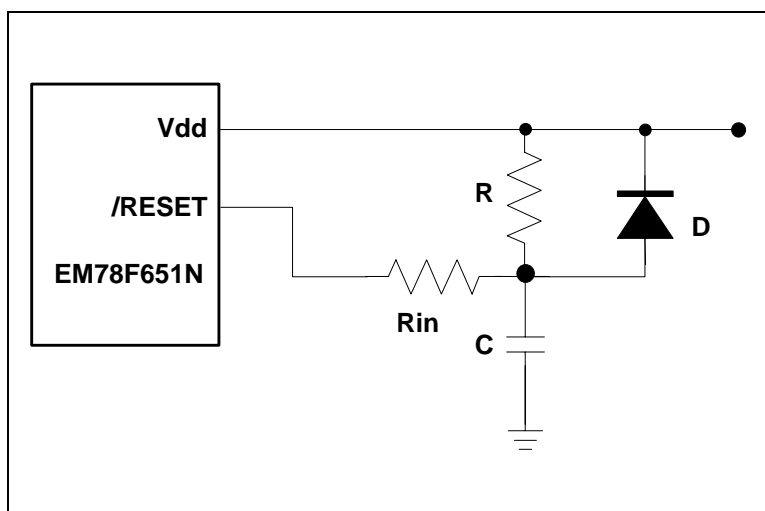

Fig. 6-15 External Power-Up Reset Circuit
The circuit shown in Fig 6-15 implements an external RC to produce a reset pulse. The pulse width (time constant) should be kept long enough for Vdd to reached minimum operation voltage. This circuit is used when the power supply has slow rise time. Because the current leakage from the /RESET pin is $\pm 5\mu\text{A}$, it is recommended that R should not be greater than 40 K. In this way, the /RESET pin voltage is held below 0.2V. The diode (D) acts as a short circuit at the moment of power down.